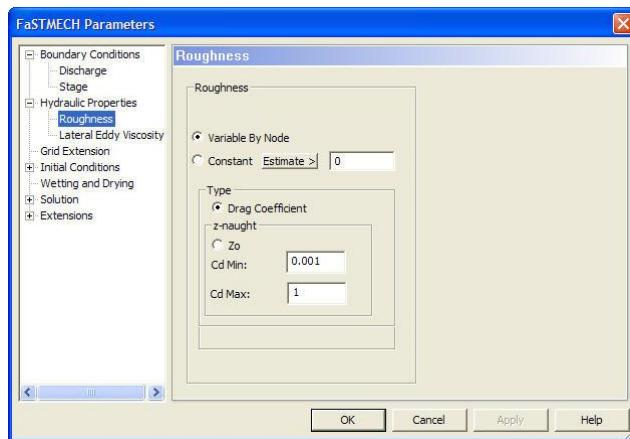

Figure3.2.2i. Input file parameters for the sim2 simulation.
- Create the input file as in figure 3.2.2c with the single exception of the **Hydraulic Properties / Roughness** as shown in figure 3.2.2i and then run the model.